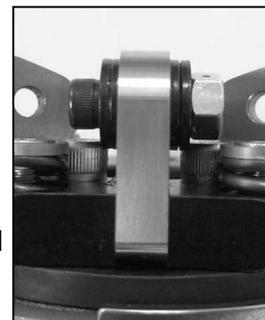
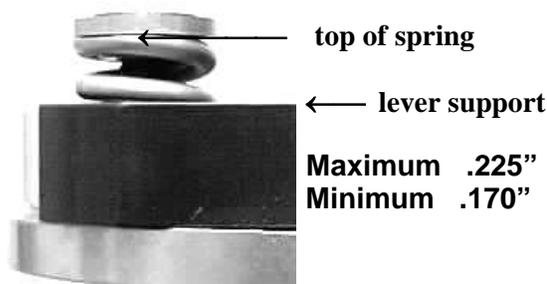

Figure 1
Figure 2
1. Install the recommended color-coded springs from the **Stall Speed Chart and adjust the height (fig 2)**
To raise stall speed by increasing the spring tension you must dial the five adjusting screws equally clockwise. $\frac{1}{4}$ turn will raise the stall speed about 100 rpm. If you can't get the correct stall speed within the spring adjustment limits (Fig 2) then remove a washer from the levers and reset the springs.
To lower stall speed by decreasing the spring tension you must dial the five adjusting screws (item 17) equally counterclockwise. $\frac{1}{4}$ turn will lower the stall speed about 100 rpm. If you can't get the correct stall speed within the spring adjustment limits (**Fig 2**) then install weaker springs or add washers. Figure 1 shows lever with 4 washers installed as an example of where to put the weight. When installing 3 or more washers use the 10-32 x $\frac{3}{4}$ bolt size.
Warning!!!! The springs in this clutch have a finite range of travel therefore adjustment limits must be followed. (**Fig 2**)